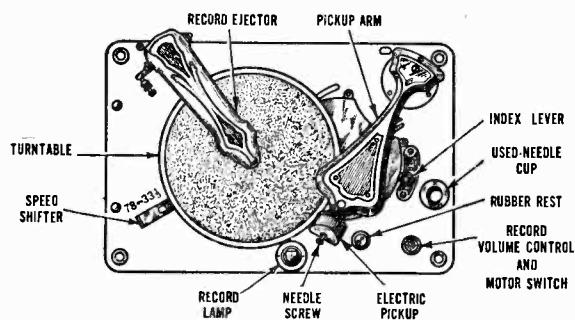

Figure 2
**Phonograph Compartment**—Raise the lid of the cabinet and remove the packing material from the playing compartment. Insert the used-needle cup (packed in outfit package) in the opening provided, as shown in Figure 2. With the speed shifter set in the outward (78 R. P. M.) position, install the turntable on the motor spindle. Make sure that the spindle drive key engages the slot in the turntable hub.
**Procedure**—Refer to Figure 2, showing the phonograph equipment. Proceed as follows: